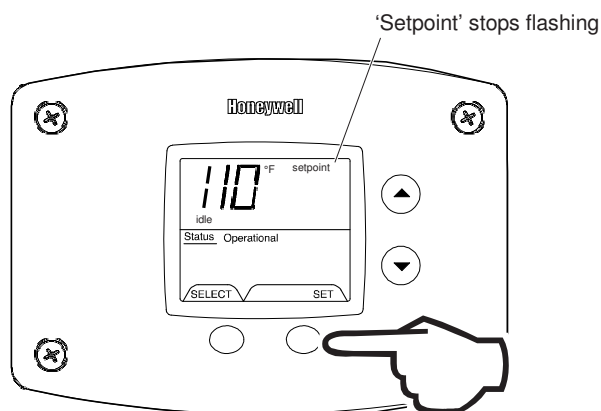

Fig. 52
- When the desired setpoint is reached on the water heater display, press the 'Set' button to confirm the new setpoint. 'Setpoint' stops flashing in the water heater display (Fig. 52).